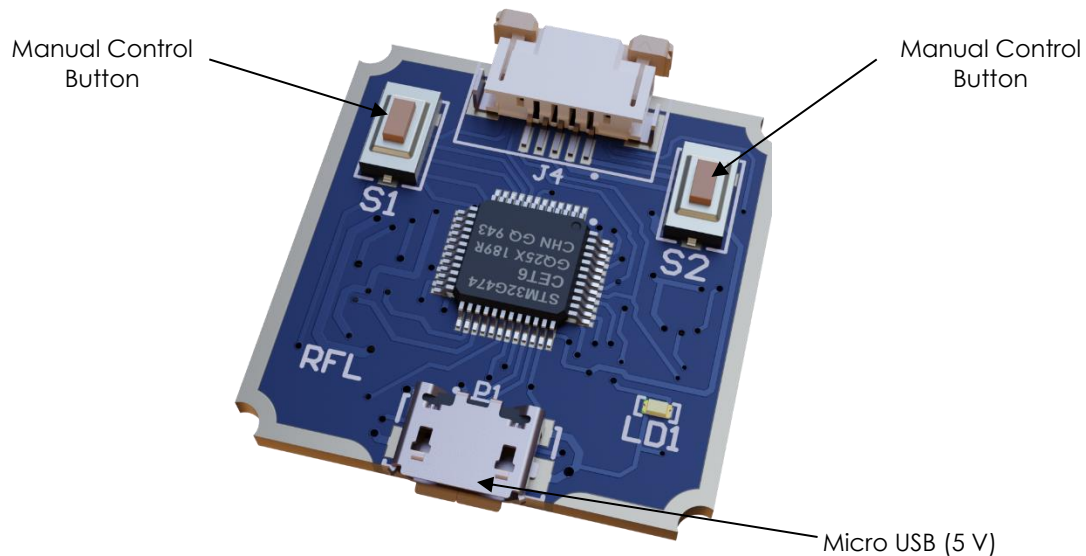

Figure 4. Driver board top view
- Connect the Micro USB connector located on the electronic driver PCB to a suitable USB port on the computer, Figure 4.
The electronic driver PCB is responsible for generating the signals needed to drive the piezo actuator, resulting in rotor rotation, Figure 4. S1 and S2 buttons are used for manual motor control; S1 causes counter-clockwise (Left) rotation, and S2 enables clockwise (Right) rotation.
Use the enclosed “USB to Micro USB adapter Cable” to connect one of the USB ports of your computer to the Micro USB port on the blue driver board, Figure 4. 5V power is automatically supplied to the driver board from the USB port.